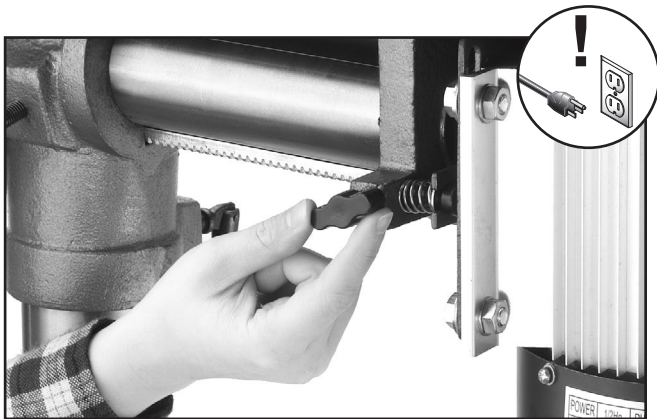

Figure 26. Example of loosening belt-tension lock knob (1 of 2).
2. Loosen belt-tension lock knobs (shown in **Figure 26**) on both sides of the headstock, and move motor toward chuck.